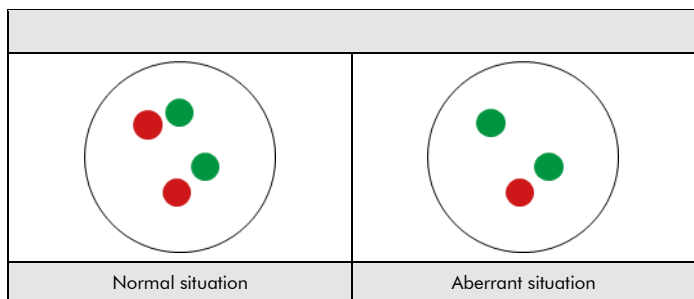

Fig. 2: Expected results in normal and aberrant nuclei
**Normal situation:** In interphases of normal cells or cells without deletion involving the 19q13 locus, two distinct dot-shaped red and two distinct dot-shaped green signals appear (see Fig. 2).
**Aberrant situation:** In a cell with deletion affecting the 19q13 locus, a reduced number of red signals will be observed. Deletions affecting only parts of the 19q13 locus might result in a normal signal pattern with red signals of reduced size (see Fig. 2).